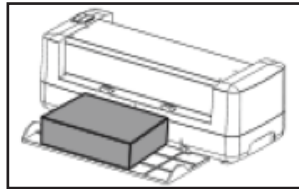
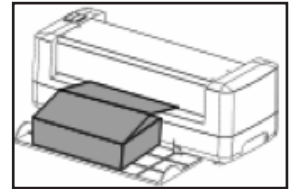

Fig. 2
Fig. 3
2. Installation of Z-fold paper. Before loading the folded paper, it is necessary to lower the paper tray and then place the folded paper. (Fig. 2) Pass Z-Fold paper correctly through the paper inlet. (Fig. 3)